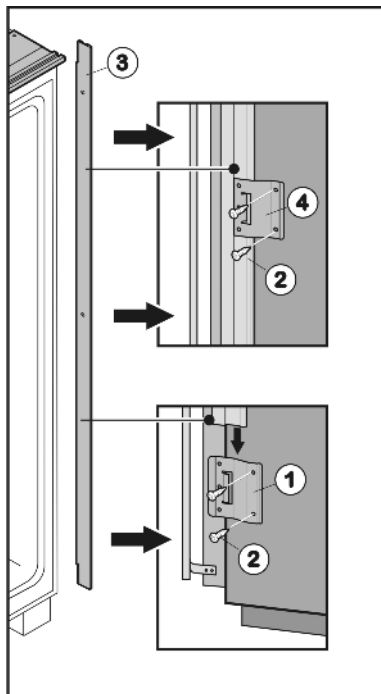
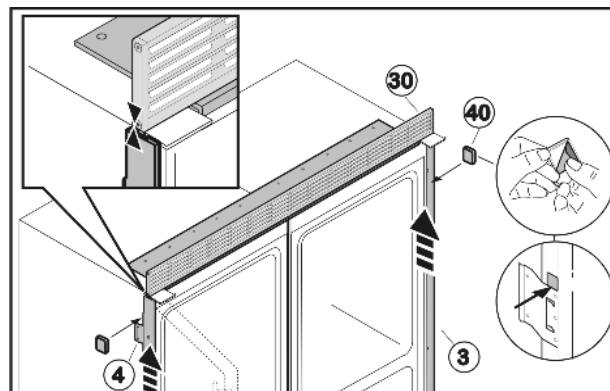

Fig. 39
Fig. 49
- Unscrew retaining plates Fig. 39 (1,4) and remove rail Fig. 39 (3).
- Fit retaining plate Fig. 39 (1) to the lower part of the hinge side by inserting two screws Fig. 39 (2) into the pre-cut holes.
- Slide rail Fig. 39 (3) into the retaining plate Fig. 39 (1) from above.
- Push second retaining plate Fig. 39 (4) onto the rail from above and screw onto the center of the side wall.
- Push third retaining plate Fig. 39 (4) onto the rail from above and screw onto the top part of the side wall.
- Remove adhesive tape from the side installation strip Fig. 49 (3).
- Push installation strip Fig. 49 (3) upwards until it is touching the ventilation grille Fig. 49 (30).
- Glue the adhesive plates Fig. 49 (40) above the retaining plate Fig. 39 (1) and the retaining plates Fig. 49 (4) respectively to the installation strip Fig. 49 (3) such that it cannot slide downwards.